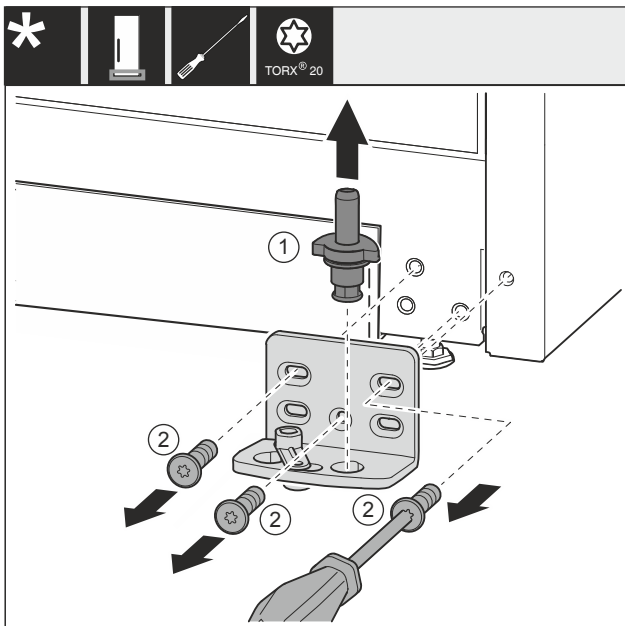

Fig. 34 \*
- Pull the bearing bolt Fig. 34 (1) out upwards completely.\*
- Use screwdriver to unscrew the screws Fig. 34 (2) and remove the swap bearing block.\*